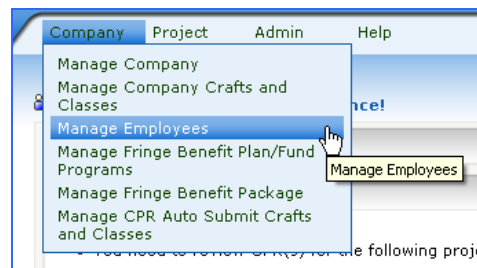

Figure 37 - Select Manage Employees Screen
1. From the Company menu, select the “Manage Employees” option (Figure 37). The next screen will be the “View Employee List” screen.